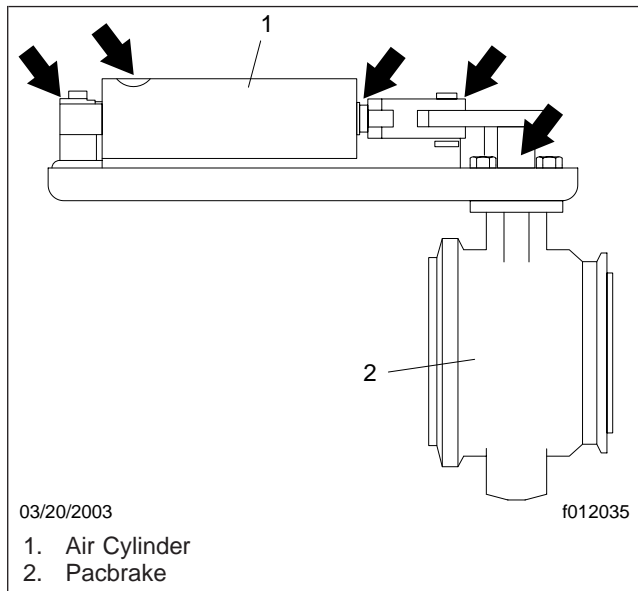

Fig. 3, Pacbrake Exhaust Brake Lube Point Locations
- With the engine turned off, use Pacbrake Synthetic Lube or Synco Super Lube and spray or coat a sufficient amount on the restrictor air cylinder valve shaft and the attaching locations at each end of the actuation cylinder. See **Fig. 3** for the exhaust brake lubrication points.